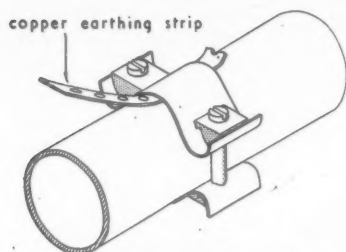

Fig. 6, clamp for securing earthing strip to water main.
**Earthing the consumer's unit:** This is effected exactly as described in the second article, by running copper strip with holes punched at close centres, called *earthing strip*, from the earth terminal on the unit to the sheath of the supply cable or water main, where it is clamped to the sheath or pipe by means of the clamp shown in Fig. 6.